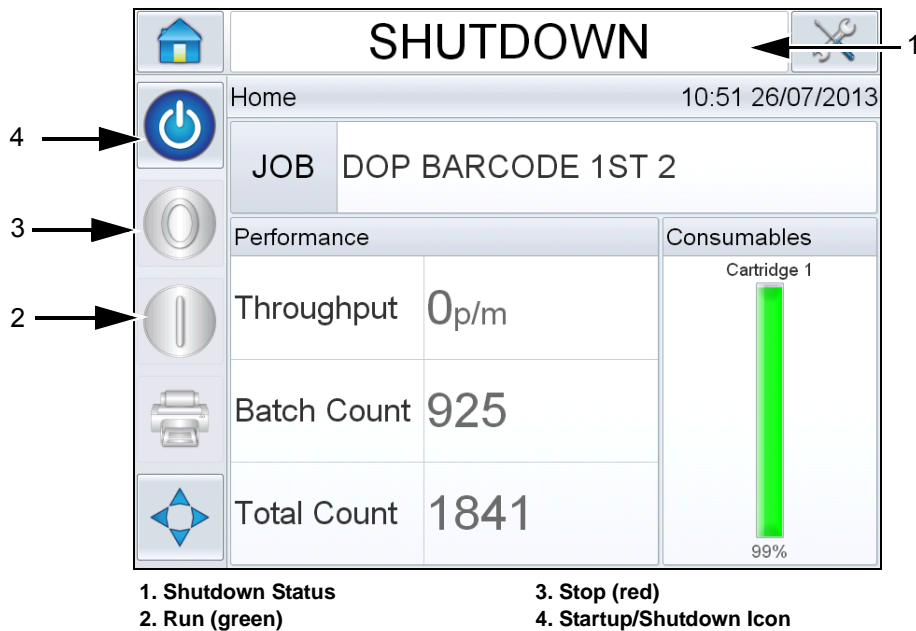

Figure 5-7: CLARiTY Home Page
On successful boot up, the CLARiTY home page appears (see Figure 5-7 on page 5-7).
- 5 During *SHUTDOWN*, the *Stop* (red) and *Run* (green) icons (see Figure 5-7) are disabled (in grey color).